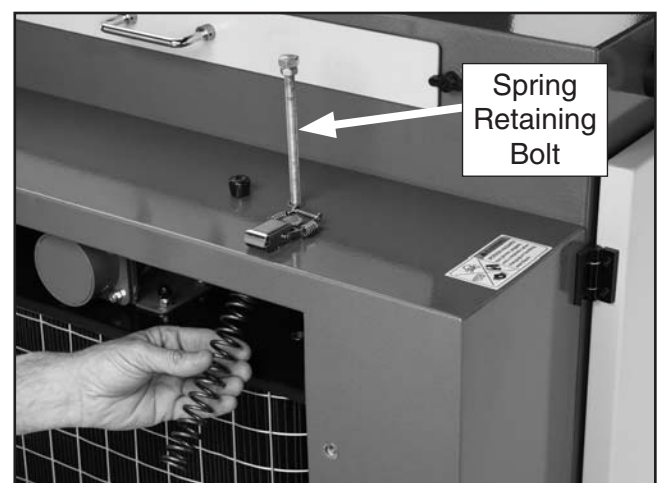

Figure 36. Vibration motor access.
6. Reach into the cabinet, firmly grasp the right-side compression spring, and remove the spring (**Figure 36**). The spring is under tension, so make sure you do not lose your grip while you work the spring out of the cabinet.